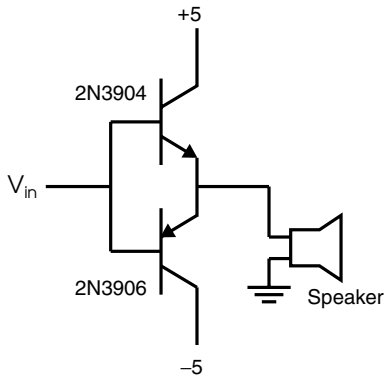

Fig. 4.11. Driving loudspeaker with push–pull buffer.
- ▷ Go back to 1 kHz and add a push–pull buffer as shown in Fig. 4.11. (Be sure you have adjusted the supply voltages to not more than ± 5 V so as not to overheat the transistors – they are rated for 200 mA collector current and 625 mW power dissipation.) You should see a larger output amplitude and hear a louder tone from the speaker.